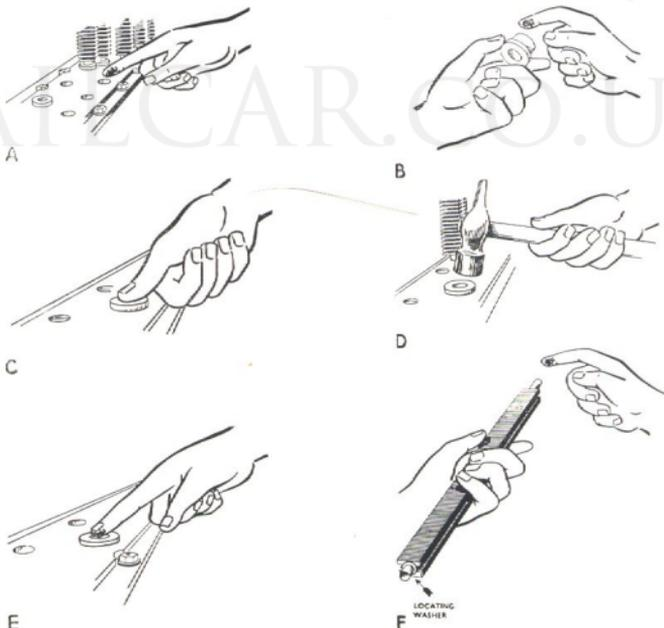

Fig. 2. Method of fitting rubber ferrules in radiator.
Assembly is the reversal of the dismantling procedure, but before assembling examine the rubber ferrules at the top and bottom of each tube for signs of perishing. If one or two have perished it is advisable to replace the whole set as follows and as illustrated in Fig. 2.
1. Lightly smear the tube holes in the tube plates (Fig. 2, A) with petroleum jelly and treat the outside diameter of the rubber ferrule (B) in a similar manner.
2. Press the ferrule into the tube holes (C) and lightly strike the ferrules with a hammer (D) to ensure that the flange on the ferrules fits flush on the tube plate.
1. Smear the inside of the rubber ferrule with petroleum jelly (Fig. 2, E) and treat each end of the radiator tube in a similar manner.
2. The top and bottom ends of the tubes are distinguished by the top end having a long length of tube bare of gilling and the bottom end being fitted with a locating washer (F).